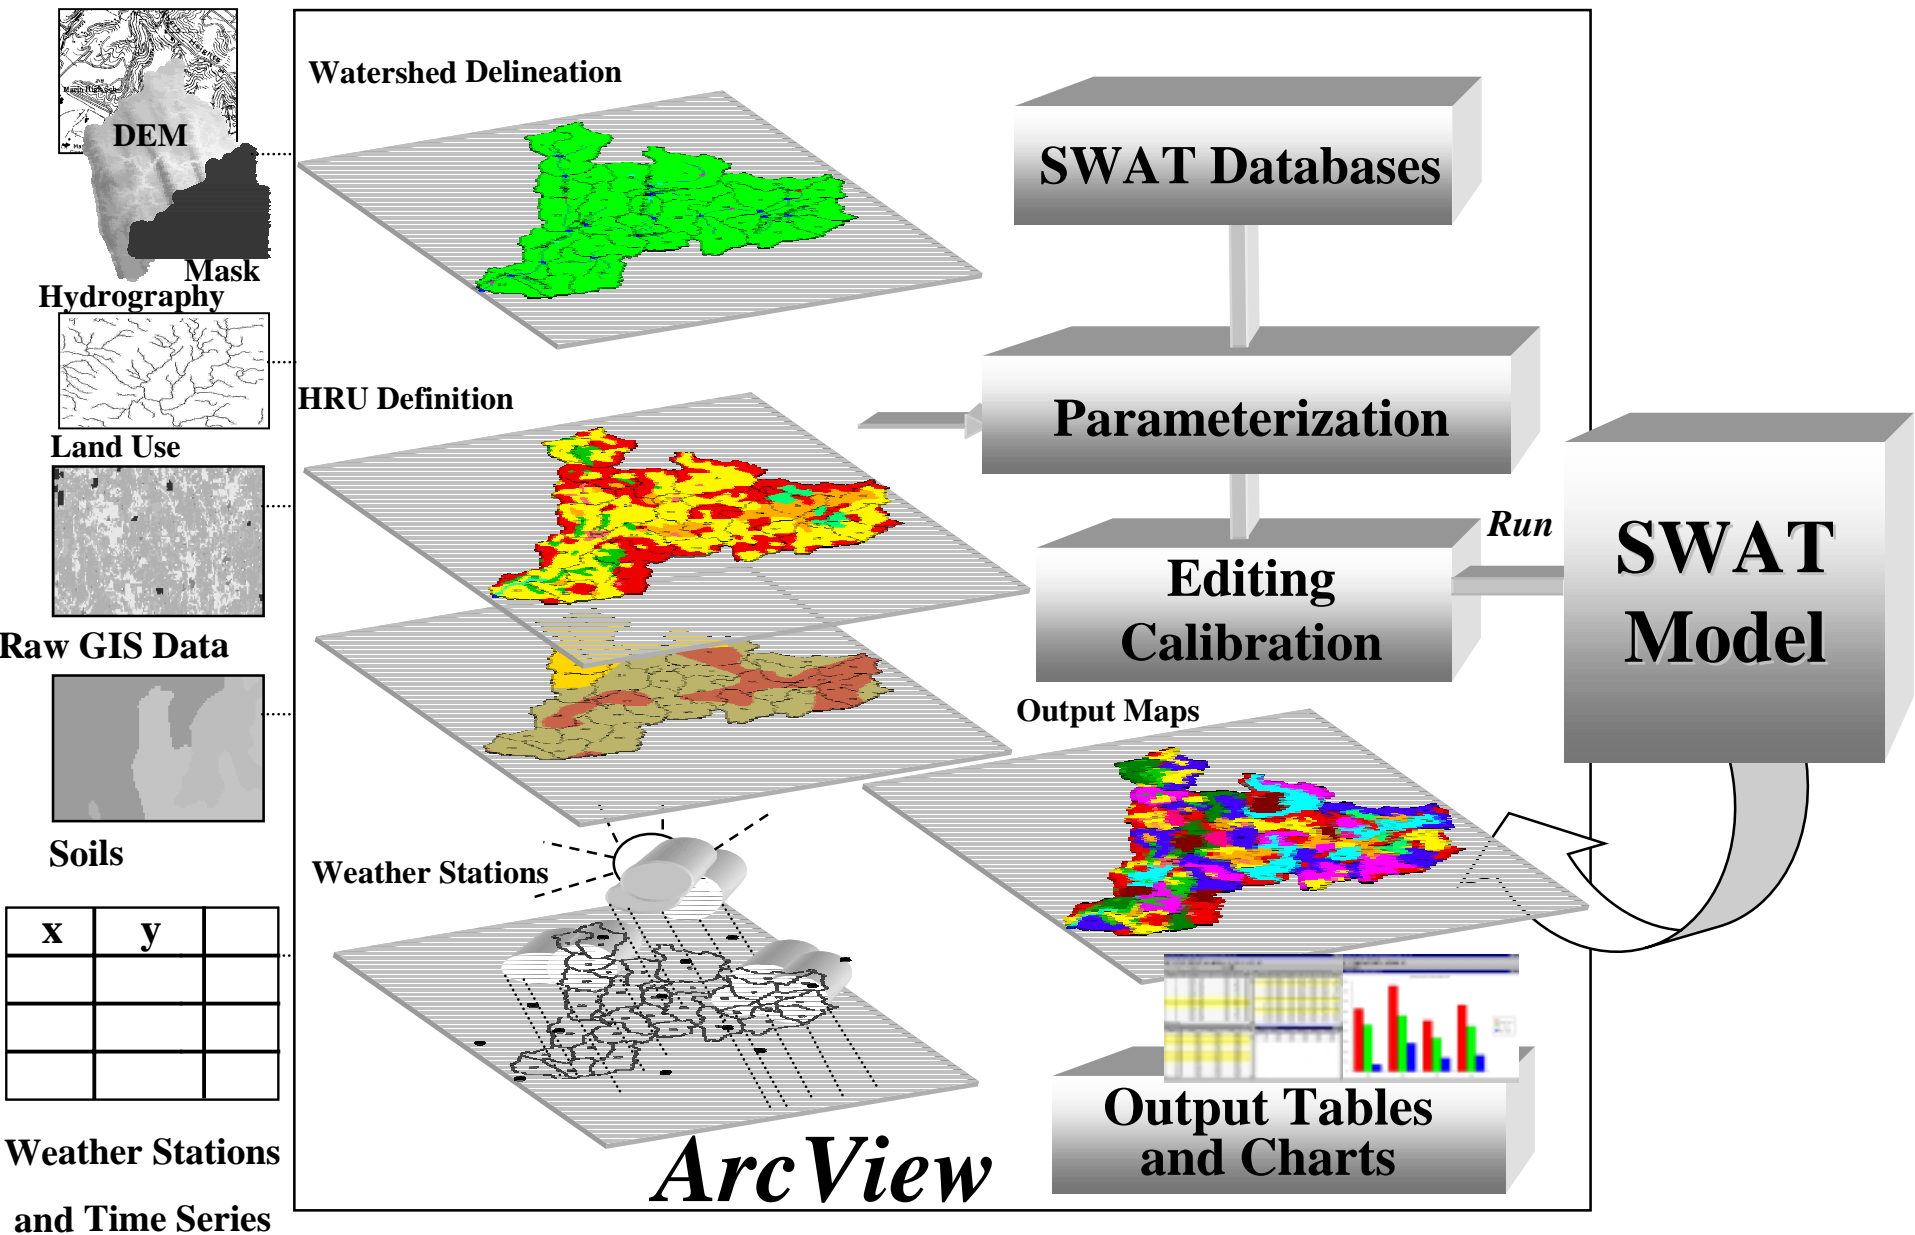

Figure 1.1
Within this system (Figure 1.1) ArcView provides both the GIS computation engine and a common Windows-based user interface. AVSWAT is organized in a sequence of several linked tools grouped in the following eight modules: (1) Watershed Delineation; (2) HRU Definition; (3) Definition of the Weather Stations; (4) AVSWAT Databases; (5) Input Parameterization, Editing and Scenario Management; (6) Model Execution; (7) Read and Map-Chart Results; (8) Calibration tool. Once AVSWAT is loaded, the modules get embedded into ArcView, and the tools are accessed through pull-down menus and other controls, which are introduced in various ArcView graphical user interfaces (or GUIs) and custom dialogs. The basic map inputs required for the AVSWAT include digital elevation, soil maps, land use/cover, hydrography (stream lines), and climate. In addition, the interface requires the designation of land use, soil, weather, groundwater, water use, management, soil chemistry, pond, and stream water quality data, as well as the simulation period, to ensure a successful simulation.